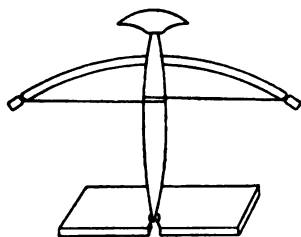

FIG. 120.—Boy-scout method of making fire by friction.
14. The turbine in the City of Tacoma Power Plant (see Fig. 120) uses a head of 415 ft. 145 cu. ft. a second pass through the turbine. Calculate the horse-power.
be by *friction*, *concussion*, or *compression*. Friction *always* results in the production of heat, as when we warm our hands by rubbing them together. When friction is excessive, such as with a heavy bearing not properly oiled, the bearing may get very hot. This is the cause of the "hot box" on a railway car. Friction may produce heat enough to set wood on fire. Some fires in mills are believed to be due to this cause. Every *boy scout* must learn how to produce fire by friction. (See Fig. 120.) *Concussion* may be illustrated by the heating of a piece of metal by hammering it, while the compression of a gas always makes it warmer, as those who have used a bicycle pump have observed. The production of heat by compressing a gas is illustrated by the "fire syringe" (Fig. 121). This consists of a glass tube with a tightly fitted piston. A sudden compression of the air contained may ignite a trace of carbon bisulfid vapor. The *interior of the earth* is hot, but its heat seldom gets to the surface except at *hot springs* and *volcanoes*.